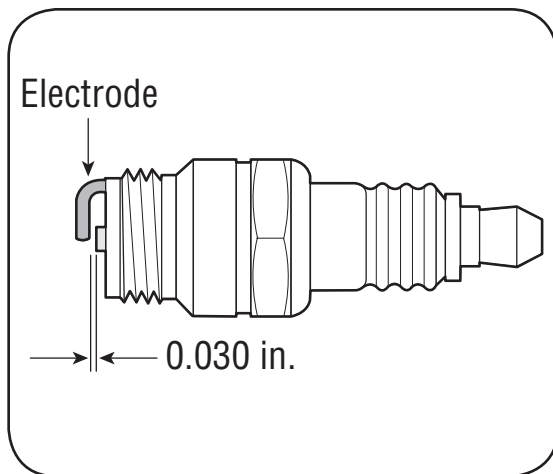

Figure 10-4
3. Measure the plug gap with a feeler gauge. Correct as necessary by bending side electrode. See Figure 10-4. The gap should be: 0.70-0.80 mm or 0.030 in.